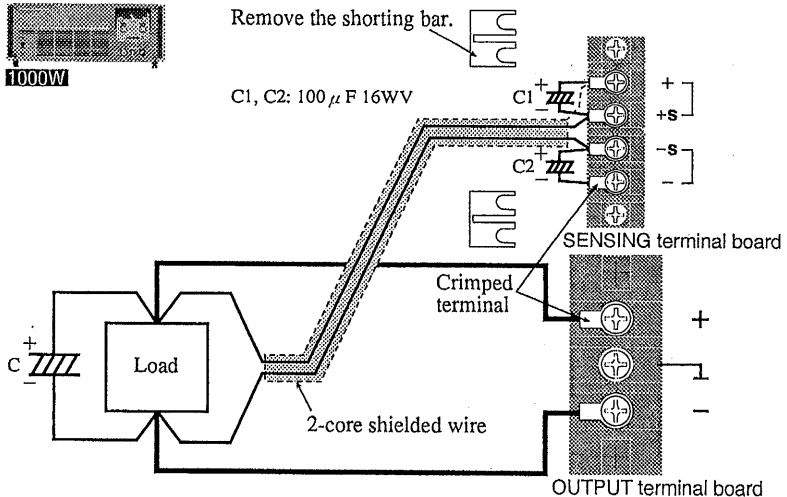

Fig. 3-1B Remote sensing connection (model 1000W)
• For the model 1000W user, see Fig. 3-1B.
- ④ Connect the +S terminal and the + (pos.) terminal of the load, and connect the -S terminal and the - (neg.) terminal of the load.
- ⑤ Connect electrolytic capacitors (C1, C2) across the +S terminal and the + (pos.) terminal, and across the -S terminal and the - (neg.) terminal.
- ⑥ Connect an electrolytic capacitor (C) with a capacity of approx. 1,000 to 100,000 μ F across the load terminals.